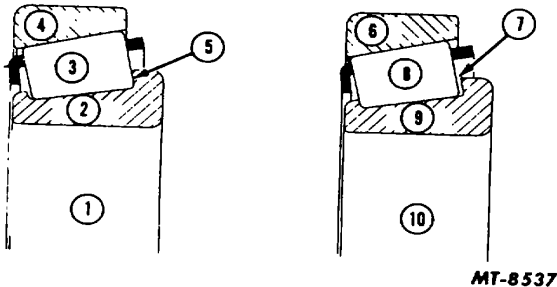

Fig. 26. Pinion Bearing Roller Position
3. Rotate pinion cage while tightening end nut to specified torque (see "Torque Chart"). Rotation of cage is important so as to seat and align bearings, otherwise, a false condition of bearing load could exist. Bearing rollers must be seated against face of bearing cone (Fig. 26).
After pinion bearing preload is established, good practice would be to check bearing roller ends to see whether they are in contact with bearing cone face. Use a feeler gauge ribbon. There must be no clearance at ends of rollers (Fig. 26).